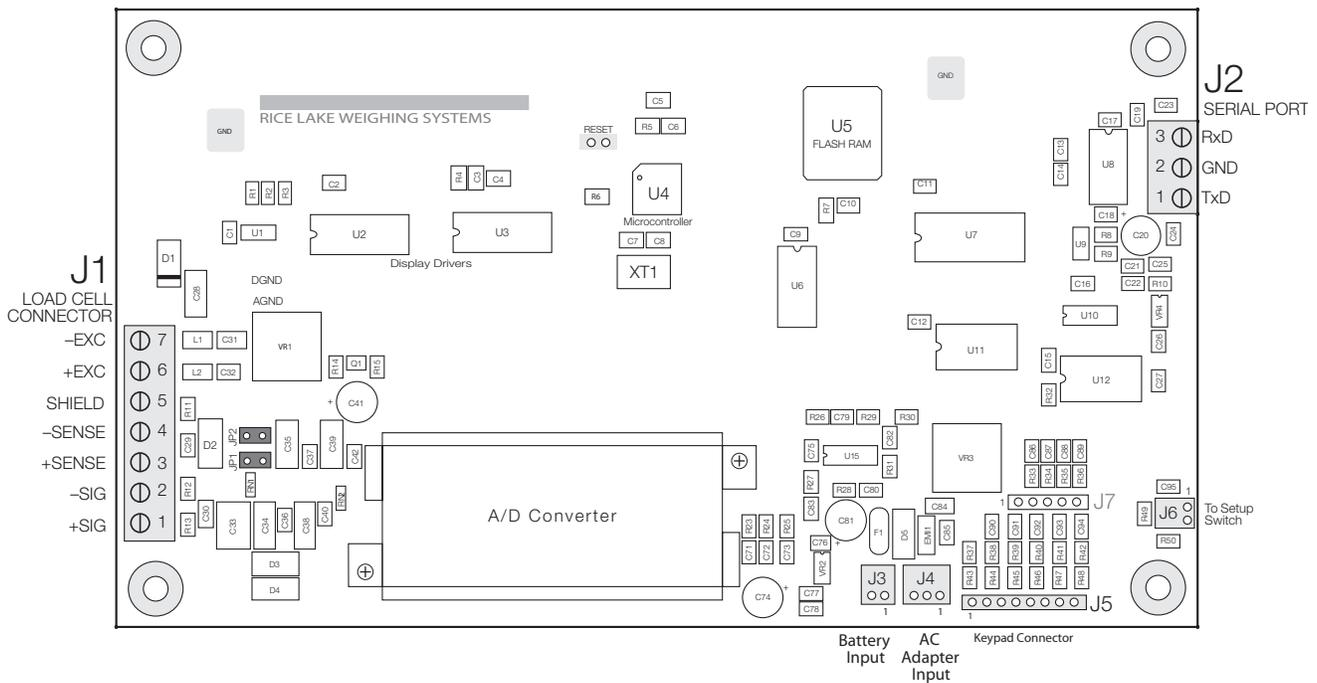

Figure 2-3. 390-DC CPU Board
To attach cable from a load cell or junction box, remove connector J1 from the board. The connector plugs into a header on the board. Connect cable from the load cell or junction box through the load cell cable cord grip to connector J1 as shown in Table 2-1. If using 6-wire load cell cable (with sense wires), remove jumpers JP1 and JP2 before reinstalling connector J1 (see Figure 2-3). For 4-wire installation, leave jumpers JP1 and JP2 on.
To attach serial communications cables, remove connector J2 from the board (see Figure 2-3). Connect communications cable through cord grip to connector J2 as shown in Table 2-2.
2. Unplug all connections to the CPU board. See Figure 2-3 on page 6 for connector locations.